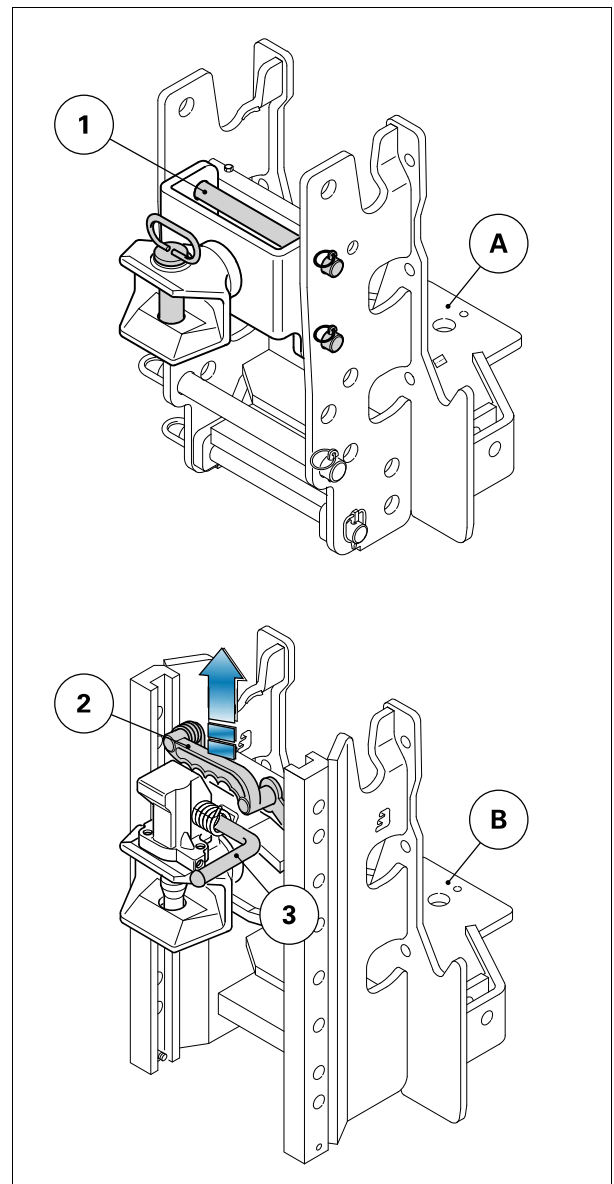

Fig. 9.
To adjust the height of the clevis, remove the two pins (1) fig. 9, position the clevis at the required height and refit the pins and their security pin.
To adjust the clevis height, pull the handle (2) upwards fig. 9, then raise or lower the clevis to the required height and release the handle.